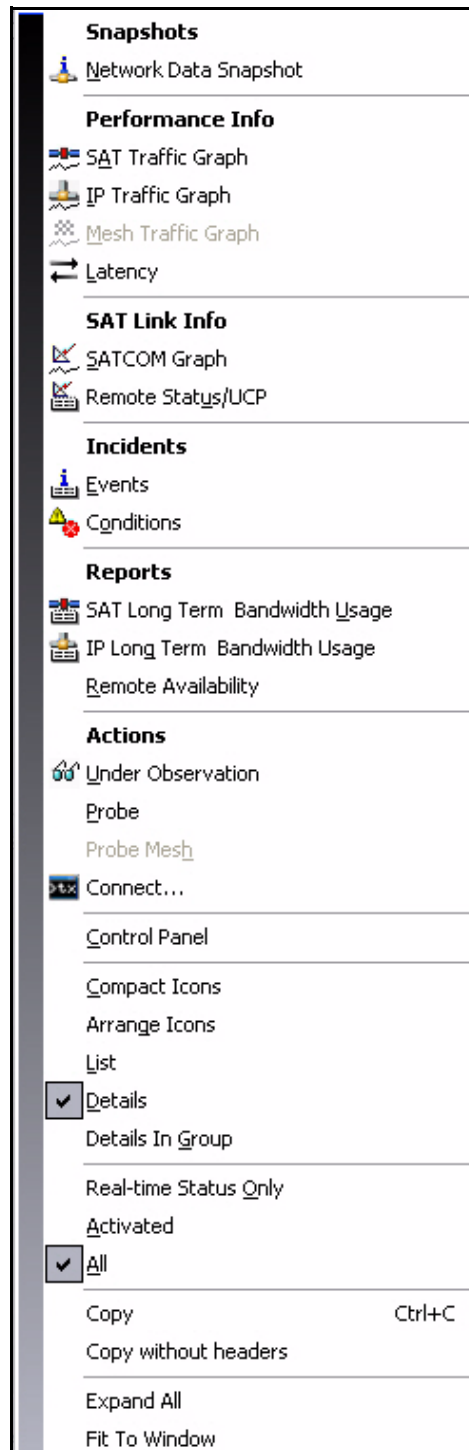

Figure 3-7: Remote Submenu in Condition Snapshot
- Step 1 In the **Network Condition Snapshot** results view, with **Details** selected as shown in Figure 3-7, select the remotes whose data you want to automatically be filled in on one of the above parameters dialog boxes, such as Remote Availability Report. Below is a figure showing five remotes selected.